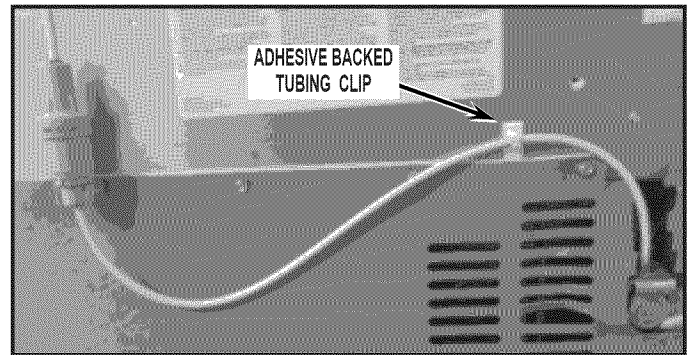

FIGURE 6
- If necessary, add the two adhesive-backed tubing clips on the household supply line to support the line and prevent kinking. See *Figure 6*.